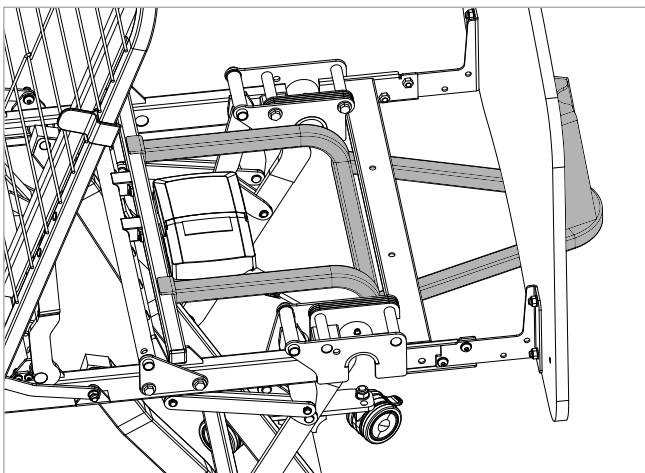

Figure 7.4
4. Locate the claws of the Lifting Pole Bracket onto the bed frame bar and lift upwards so that the holes in the bed frame crossbar align with the holes in the Lifting Pole Bracket. Ensure that no cables are trapped during installation (see Figure 7.4).